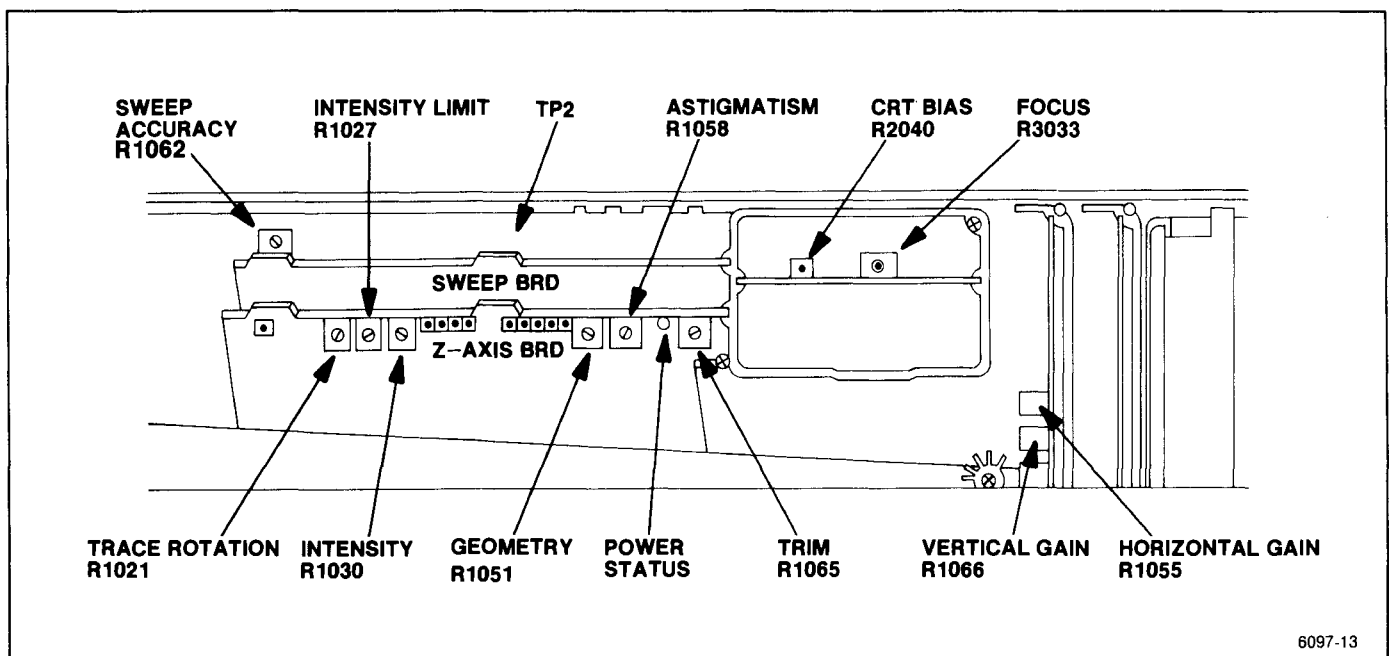
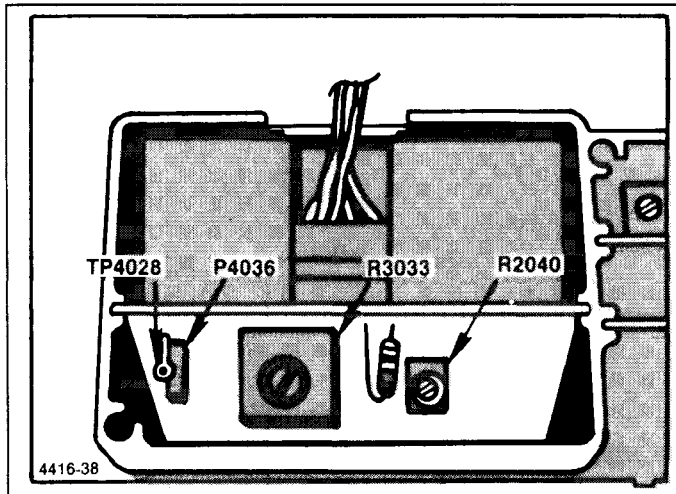

Figure 5-2. Crt display adjustment and test point locations.
Figure 5-3. Adjustment and test point locations on High Voltage module.
b. Remove the cover over the Z-Axis and Sweep boards. Set the Intensity Limit R1027, on the Z-Axis board (Figure 5-2) fully counterclockwise and Crt Bias R2040, on the High Voltage board (Figure 5-3) fully clockwise.
(2) Turn the INTENSITY clockwise until a crt beam dot appears on screen.
(3) Focus the dot by adjusting R3033 on the High Voltage board (Figure 5-3) for the smallest round dot.
(4) Set the INTENSITY for a collector voltage 5.5 V higher than the voltage noted in part d, subpart 1.
(5) Use the non-metallic screwdriver to adjust Crt Bias, R2040, counterclockwise until the crt beam is visible, then clockwise until the beam dot just extinguishes, with the screen shaded. (If no dot appears, with the adjustment fully counterclockwise, this will be the bias setting.)
(6) Turn the INTENSITY clockwise until a dot is visible then defocus the dot with the Focus adjustment, R3033. Adjust Astigmatism R1058 (Figure 5-2) for a round dot then refocus with R3033 for the smallest and sharpest dot.
(7) Turn the INTENSITY counterclockwise until the dot just disappears, and again measure the collector voltage at Q4058 or Q4059. Voltage should equal or exceed the voltage set in part d, subpart 4. If the voltage is less, repeat the procedure for setting Crt bias.
(1) Switch POWER off, then remove P4036 (Figure 5-3) on the High Voltage board. Turn INTENSITY fully clockwise, MANUAL SCAN fully counterclockwise, and ensure that the TIME/DIV is in the MNL position. Set the Intensity Limit R1027, on the Z-Axis board, (Figure 5-2) fully clockwise.
(2) Connect the voltmeter between TP4028 (Figure 5-3) and the ground lug on the crt shield. Switch POWER back on. After the instrument initializes, activate 2 dB/DIV and switch Digital Storage off.
(3) Adjust Intensity Limit R1027 (Figure 5-2) for a voltage reading of 0.9 V at TP4028.
(4) Switch POWER off and re-install the jumper P4036 on the High Voltage board. Turn POWER on and adjust the INTENSITY for normal viewing.
g. Activate ZERO SPAN and adjust REFERENCE LEVEL until the trace is approximately mid-screen; then adjust the Trace Rotation R1021 (Figure 5-2) so the trace is aligned with the graticule lines.
h. Activate VIEW A and VIEW B then use the PEAK/AVERAGE cursor, positioned at the top then bottom of the screen, as a reference line to adjust Geometry R1051 (Figure 5-2) for the straightest trace at top and bottom of the screen.
j. Adjust Intensity R1030 (Figure 5-2) so the brightness of the readout characters is slightly higher than the trace. Readout characters should be just visible after the trace has disappeared. This ratio provides the
c. Adjust Vert Gain, R1066 (Figure 5-2) for a full screen display.
e. Set TIME/DIV to MNL. Monitor TP2 on the Sweep board (Figure 5-2) with a voltmeter (Digital Multimeter). Set the MANUAL SCAN control for 0.0 V reading on the voltmeter (TP2). Set the horizontal POSITION control to center the CRT beam (dot).
g. Adjust Horiz Gain, R1055 (Figure 5-2) to position the crt beam to the right graticule edge (10th graticule line).